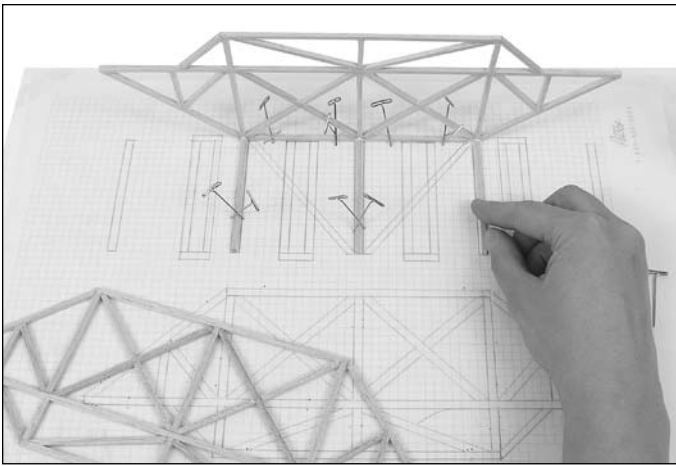

Figure 29 – Cross sections to go between the bridge halves
10. Pin one side of the bridge so it is perpendicular to the foam board – note the top is facedown. Glue the top braces to the side (Figure 29). Use a square to ensure the side is perpendicular to the cross brace members.